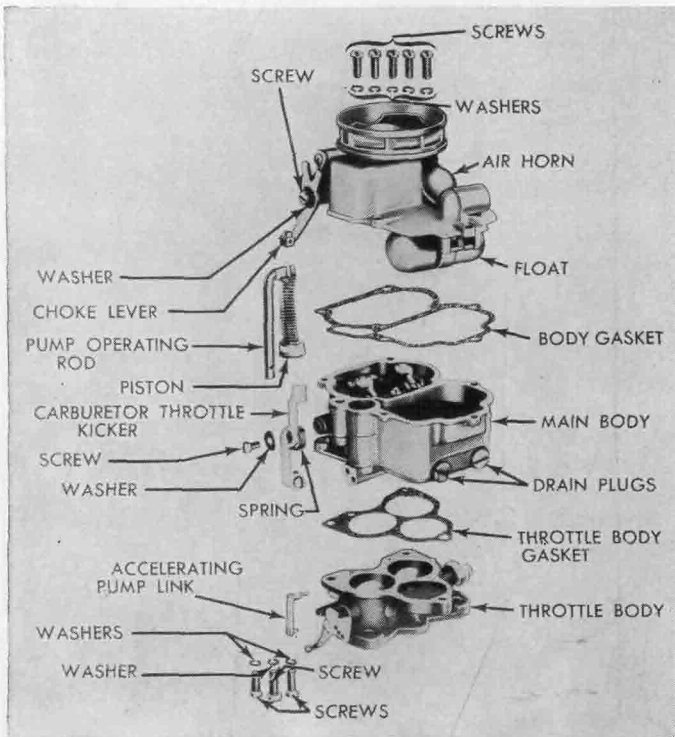

FIG. 10-26. Disassembled view of carburetor. (Ford Motor Company)
1. *Disassembling carburetor* (refer to Fig. 10-26). Remove choke lever and carburetor throttle kicker by taking off screws and washers. Disconnect and remove accelerator-pump link. Separate air horn, main body, and throttle body by removing screws and washers. Lift accelerator-pump assembly from main body.